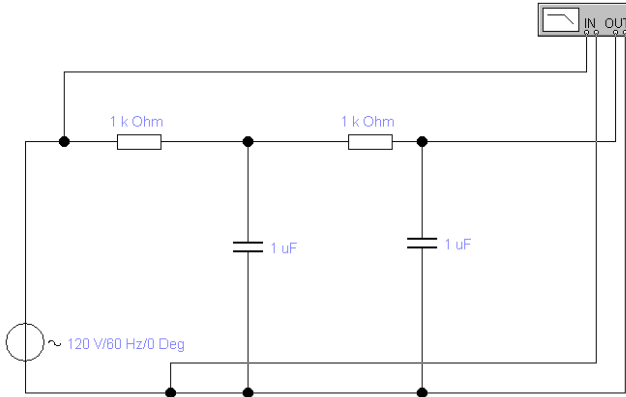

Figure 8.5 – Two-point low-pass filter
7. Draw a pattern of fig. 8.5.